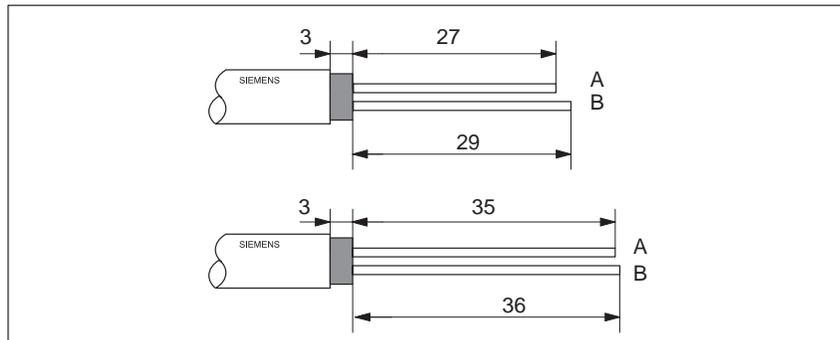

Figure 5-12 Length of stripped ends for connection to bus connector (6ES7 972-0BA30 ...)
1. Strip the ends of the bus cable as shown in Fig. 5-12.